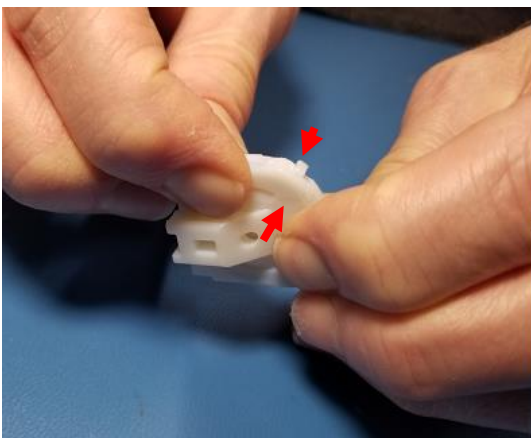

Figure 14. Press the Cassette Halves Together in Several Places, then Slide the Cassette onto the Cover.
5. Press the two halves together at several points around the Cassette to ensure everything is in its correct place. See **Figure 14**. The two halves do not need to be perfectly tight together. They will tighten further when the cartridge is installed in the DustCount.
6. Slide the filter Cassette into the Cassette cover. Please note that the cassette can only be slid on one way. See **Figure 14**.